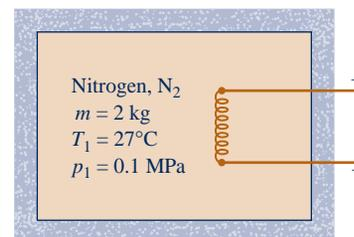

Fig. P3.125
- 3.125** As shown in Fig. P3.125, a tank fitted with an electrical resistor of negligible mass holds 2 kg of nitrogen (N₂), initially at 27°C, 0.1 MPa. Over a period of 10 minutes, electricity is provided to the resistor at a rate of 0.12 kW. During this same period, a heat transfer of magnitude 12.59 kJ